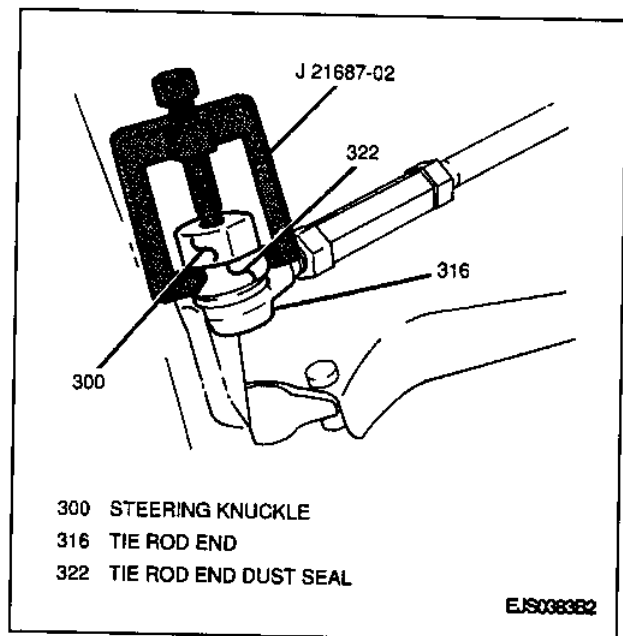

Figure 8—Separating Tie Rod From Steering Knuckle
Figures 8 through 11
4. Separate tie rod end from steering knuckle using a J 21687-02 (Figure 8).